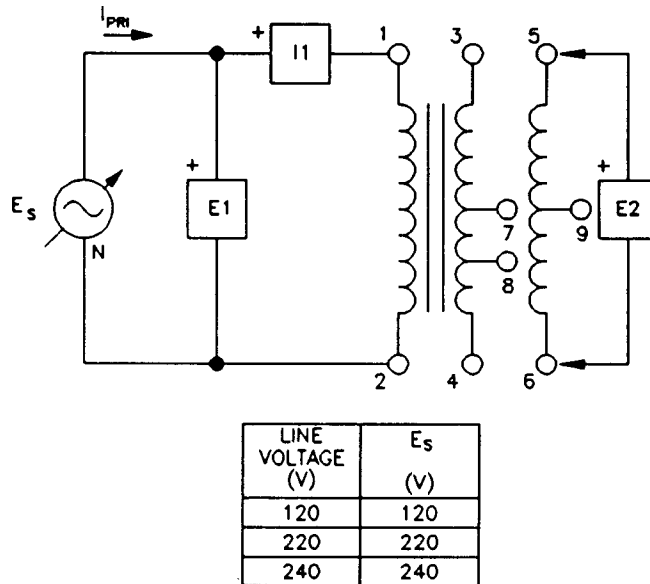

Figure 7-3. Single-Phase Transformer Measurements.
- 3. Ensure that the DAI LOW POWER INPUT is connected to the main Power Supply, set the 24 V - AC power switch to the I. (ON) position, and ensure the flat cable from the computer is connected to the DAI.
- 5. Set up the transformer circuit shown in Figure 7-3. Connect E1 and I1 as shown and use E2 to measure the different secondary voltages.
- 6. Turn on the power and adjust the voltage control for the value of E_s given in Figure 7-3. Measure the transformer primary current and the different terminal voltages. After recording the measurements, rotate the voltage control fully ccw and then turn off the power.